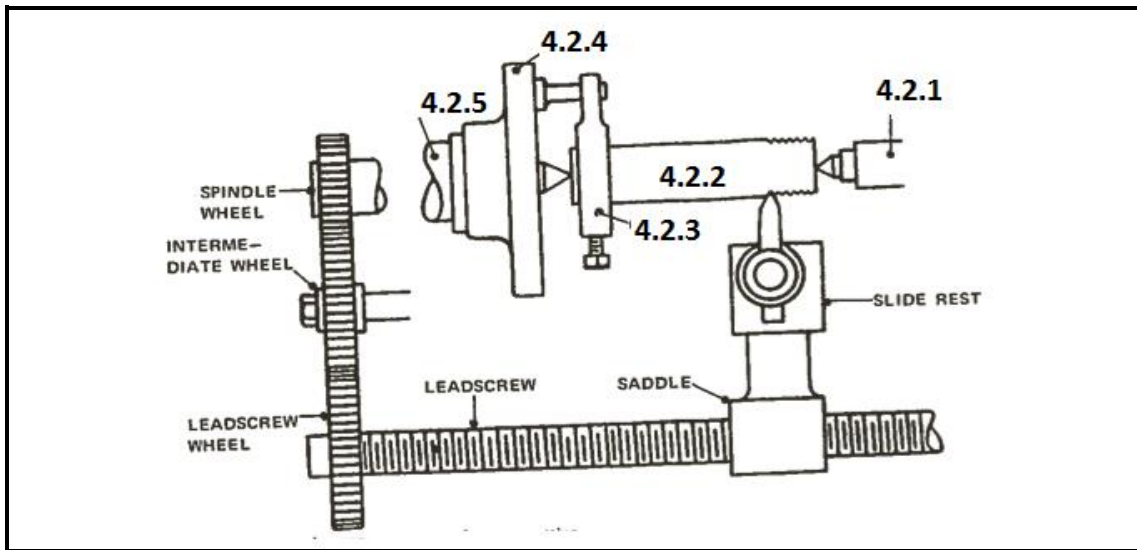

FIGURE 2
4.2 FIGURE 2 below shows a method of cutting a single-start screw thread between centres. Identify the numbered components and write only the answer next to the question number (4.2.1–4.2.5) in the ANSWER BOOK.
4.4 Analyse the sketch in FIGURE 2 above, and give TWO advantages and TWO disadvantage of a work-piece being held between centres.